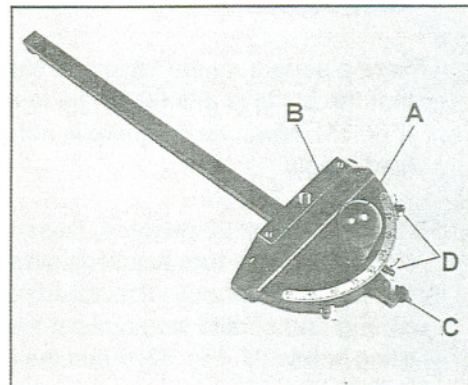

Fig. 28
1. Operate miter gauge by loosening lock knob (A, Fig. 28) and turning miter body (B, Fig. 28) to desired angle. To move gauge beyond index stops of 45° and 90°, flip down stoplink (C, Fig. 28).
2. Adjust index stops by turning one of three adjustment screws (D, Fig. 28).